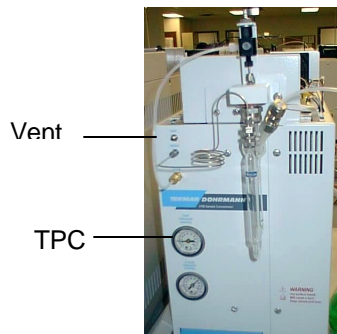

Figure 3-4: Concentrator Vent
7. Wait two minutes and check the flow from the concentrator vent (Figure 3-4). The flow should be between 35 and 40mL/min. Adjust the flow controller on the SOLATek 72, if necessary. Press [Next Page]